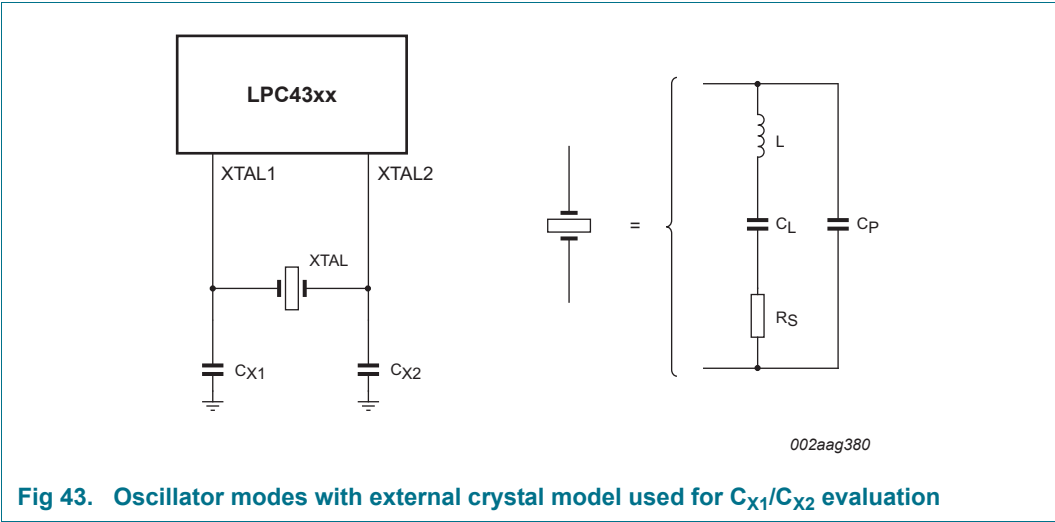

Fig 43. Oscillator modes with external crystal model used for CX1/CX2 evaluation
- External components and models used in oscillation mode are shown in Figure 43, and in Table 37 and Table 38. Since the feedback resistance is integrated on chip, only a crystal and the capacitances  $C_{X1}$  and  $C_{X2}$  need to be connected externally in case of fundamental mode oscillation ( $L$ ,  $C_L$  and  $R_s$  represent the fundamental frequency). The capacitance  $C_P$  in Figure 43 represents the parallel package capacitance and must not be larger than 7 pF. Parameters  $F_c$ ,  $C_L$ ,  $R_s$  and  $C_P$  are supplied by the crystal manufacturer.